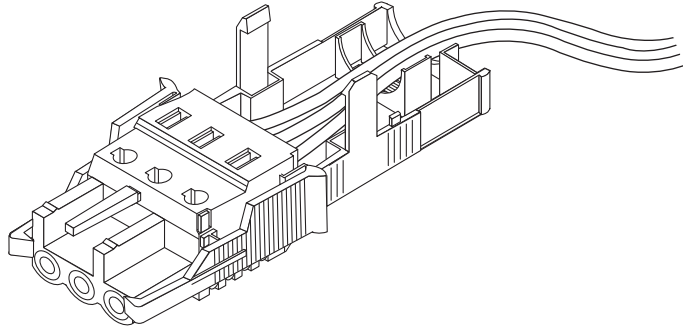

FIGURE 3-7 Routing the Wires Out of the Strain Relief Housing
2. **Route the three wires coming from the DC power source through the opening at the end of the bottom portion of the strain relief housing (see FIGURE 3-7).**